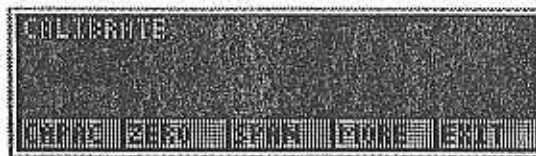
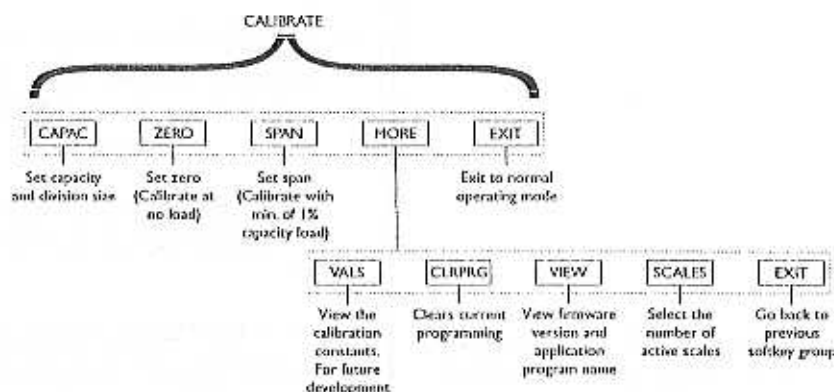

Figure 7
Figure 8
1. Press and hold the **ESCAPE** key until the WI-130 beeps. Key in 30456 and press **ENTER**. . . the screen in Figure 7 is displayed.
Figure 8 is a flowchart showing what soft keys or choices appear as you press the soft keys shown in Figure 7.